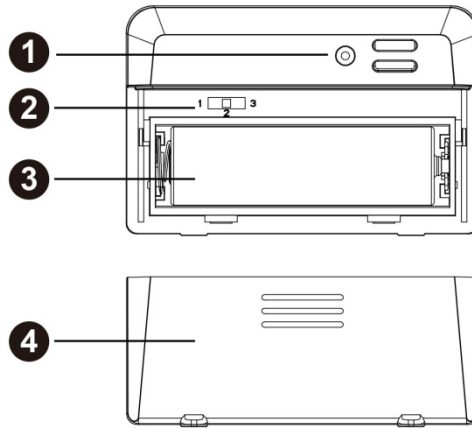

Figure 1
1. Remove the battery door on the back of the sensor by sliding the compartment door down, as shown in Figure 1.